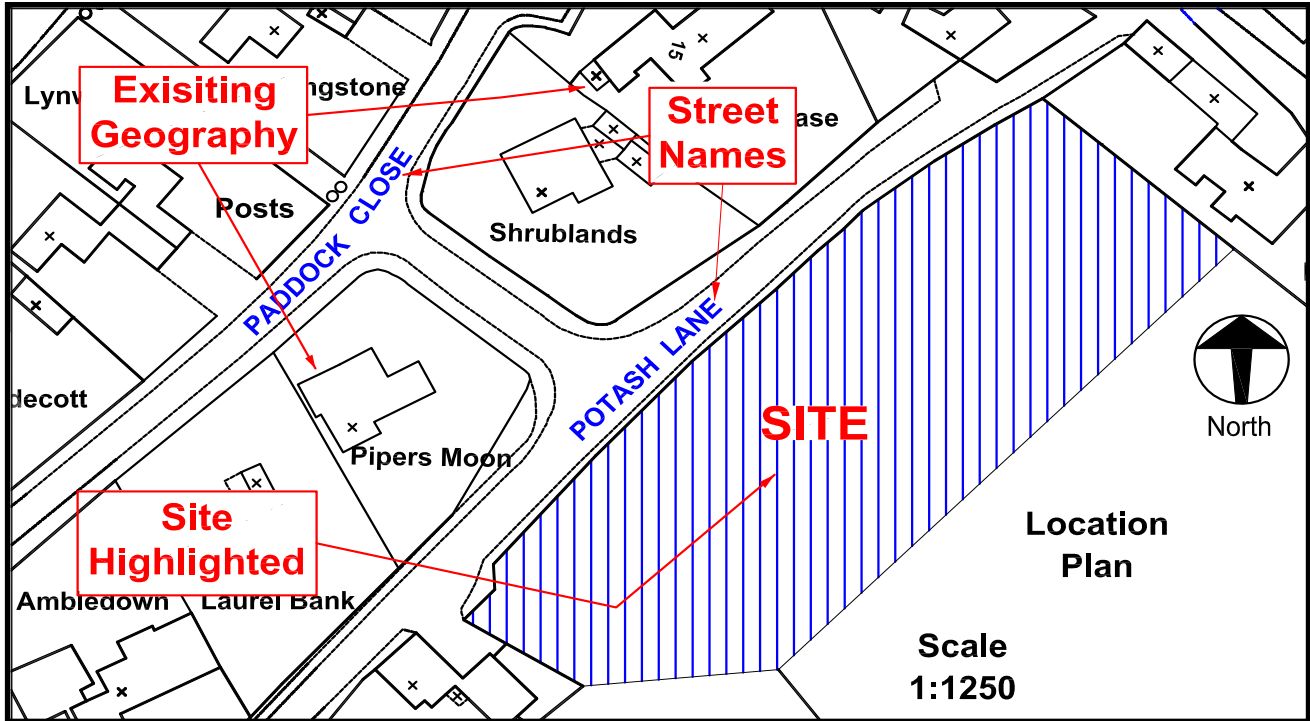

Fig 1 - Example of Location Plan required
- To show existing geography including house numbers/names as shown in Fig 1.